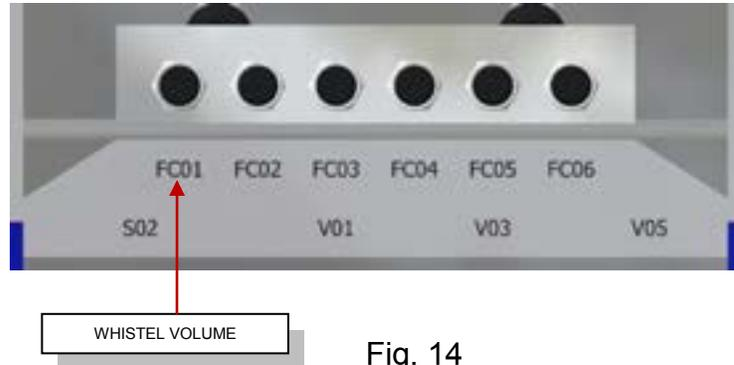

Fig. 14
**Whistle Volume: (FC01)** (see figure 14)